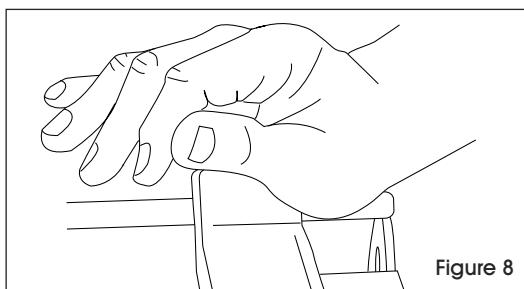

Figure 8
12. On the opposite side, push stop pin away from left hinge bracket. (See Figure 8)